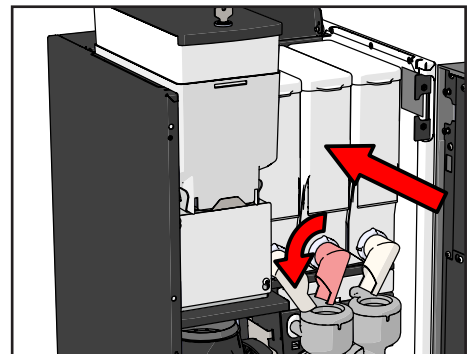

Figure 11.
6. Replace the canisters in the machine (see Figure 11).